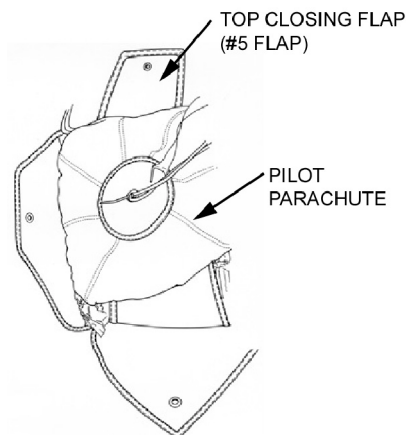

Figure 11. Roll Pilot Parachute Netting
o. Roll bottom pilot parachute netting and canopy under to approximately 2-in. from the edge of the pilot parachute center cap (Figure 11).
p. Roll left pilot parachute netting and canopy under to approximately 3-in. from the edge of the pilot parachute center cap (Figure 11).